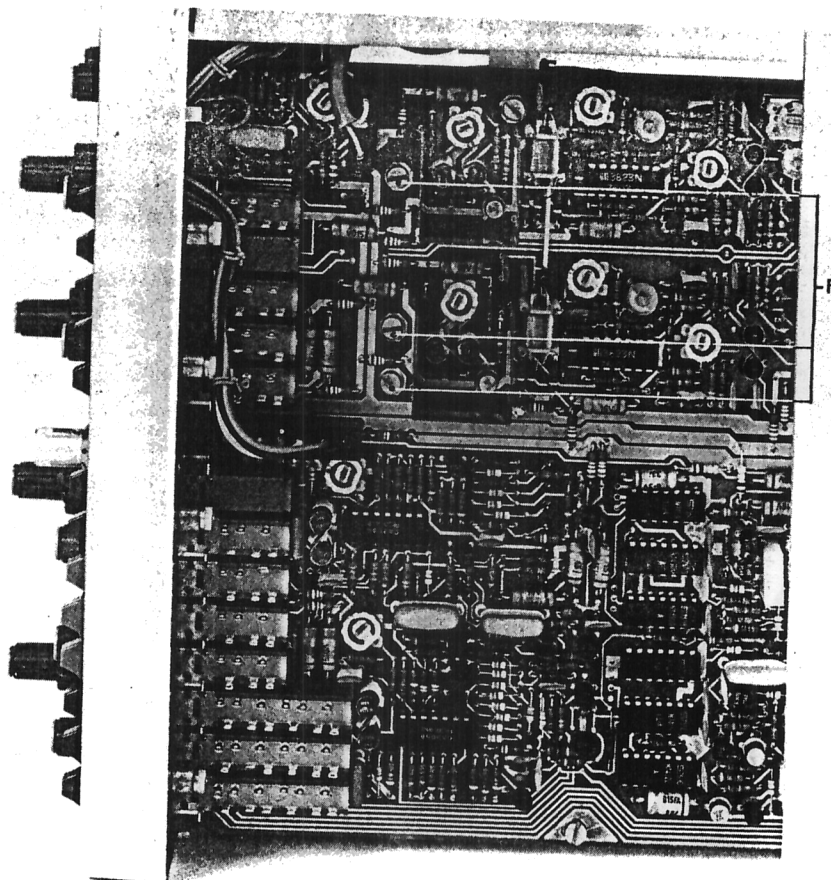

Fig. 3.27. Removing the front assembly (screws F).
- Remove the three screws F (Fig. 3.27).